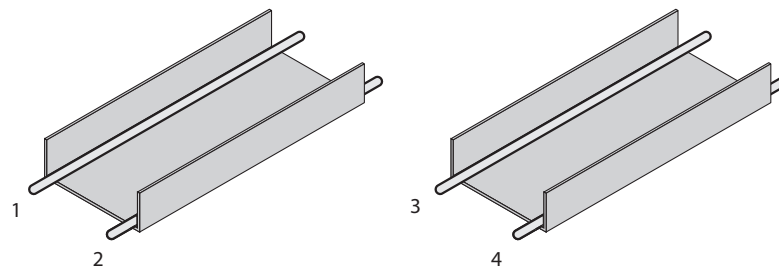
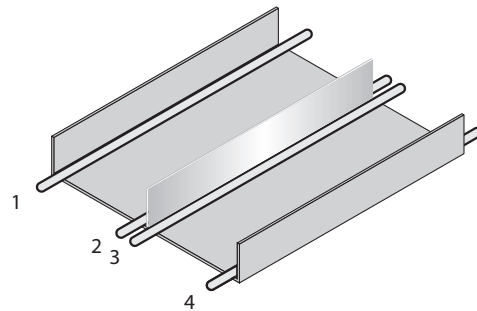

Figure 5: Ideal laying – Place cables in different cable channels
Figure 6: Alternative laying – Separate cables with metallic separators
- ▷ Cables in groups 1, 2 and 3, 4 must be routed in different cable channels or metallic separators must be used see figure 5 and see figure 6. This applies particularly where cables of devices with a high level of radiated emission, such as frequency converters, are laid parallel to sensor cables.